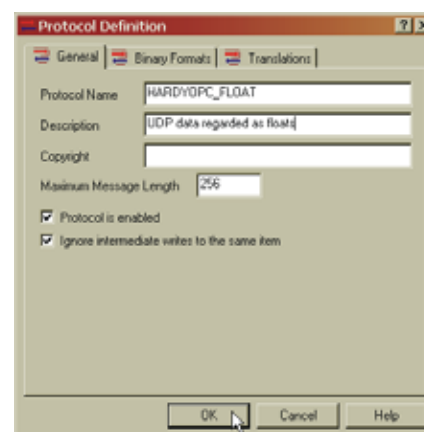

FIG. 193: PROTOCOLS DEFINITION DIALOG BOX/ CREATING PROTOCOL NAME AND DESCRIPTION
Step 6. Double or Right Click on Protocol Settings. (See Fig. 192) The Protocol Definition dialog box appears. (See Fig. 193)